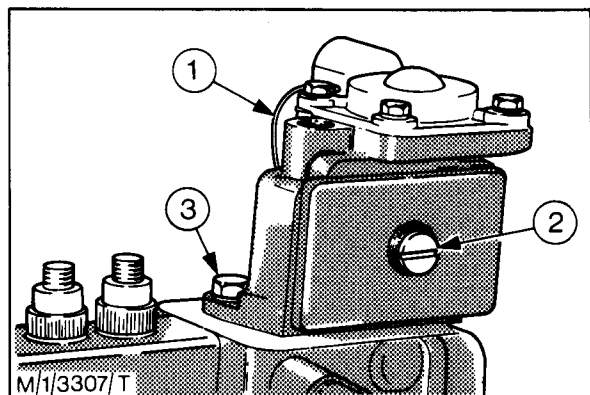

Fig. 28 - Boost Control Unit Removal
12. File the boss of the retaining shear bolt flat and cut a slot in it (Fig. 28). Insert a screwdriver and unscrew the bolt. Remove the side cover and prise out the rubber seal. Discard the seal and retaining bolt.